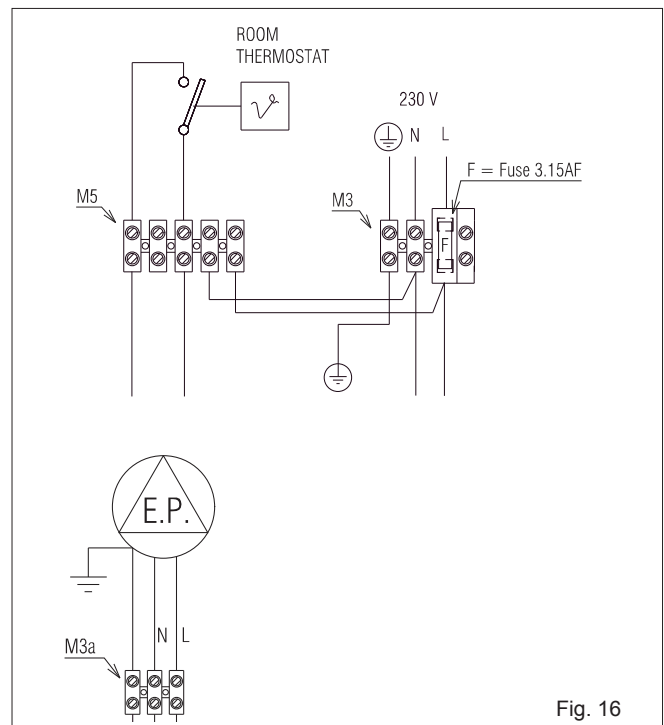

Fig. 16
4.7.3 CONNECTING THE MAINS (230V) INPUT (fig. 16)
4.7.4 CONNECTING THE PUMP (230V) OUTPUT (fig. 16)